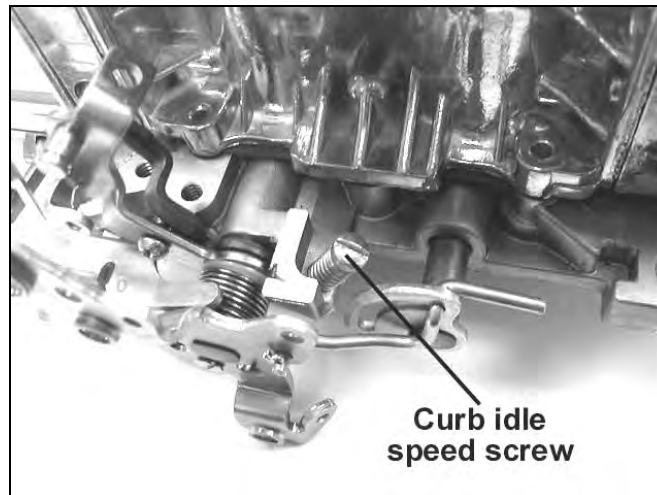

**Figure 8**
2. If the fast idle RPM is too low or too high for your preferences, SHUT DOWN THE ENGINE! Advance the throttle to wide-open, exposing the fast idle set screw below the choke housing (See Figure 8).